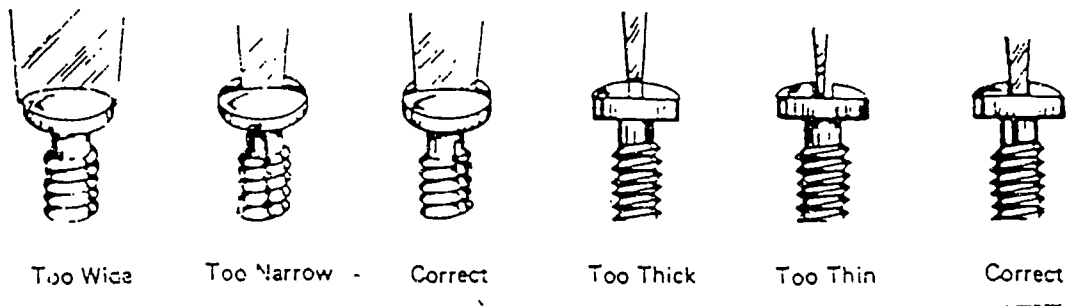

Figure 1-5. Fitting the Screwdriver Blade to the Screw Head
2. Make sure the screwdriver size fits the screw correctly as shown in Figure 1-5.